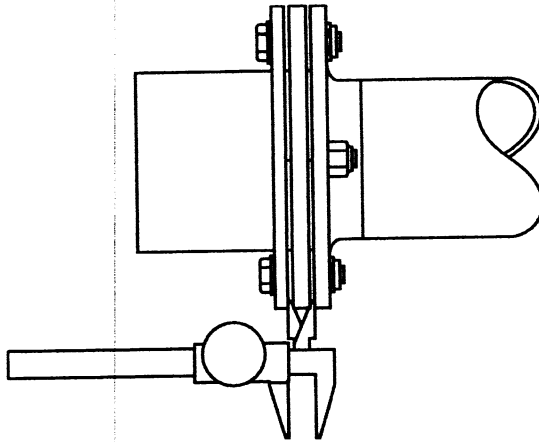

Fig. 17
Step 1: Without rotating the coupling, take four gap readings at 3:00, 6:00, 9:00 and 12:00 o'clock between the driver and center member flanges as seen in Fig. 17.